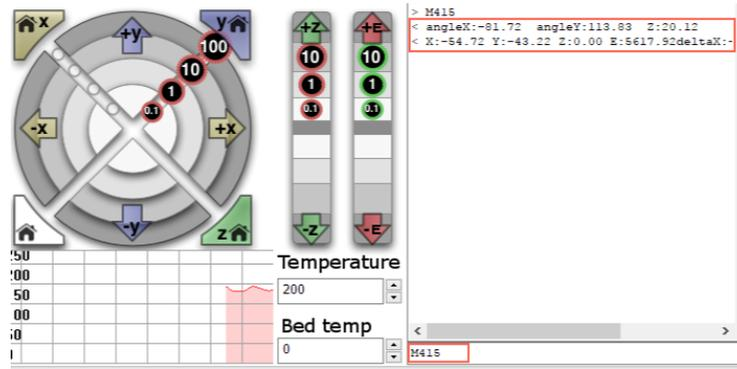

Figure 6.29 Input command M415
- Input command **M415** on the lower right of the **Operational** page to save the printing coordinates, as shown in Figure 6.29.